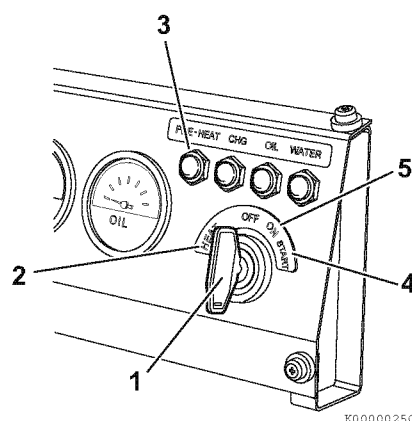

Figure 3
7. Insert the key into the key switch (1, **Figure 2**) or (1, **Figure 3**).
8. Turn the key to the ON position (2, **Figure 2**) or the HEAT position (2, **Figure 3**). The pre-heat indicator (3, **Figure 2**) flashes for several seconds and then goes out. After the pre-heat indicator goes out you can start the engine.
9. Turn the key clockwise to the START position (4, **Figure 2**) or (4, **Figure 3**). Release the key as soon as the engine starts. It will return to the ON position (2, **Figure 2**) or (5, **Figure 3**).